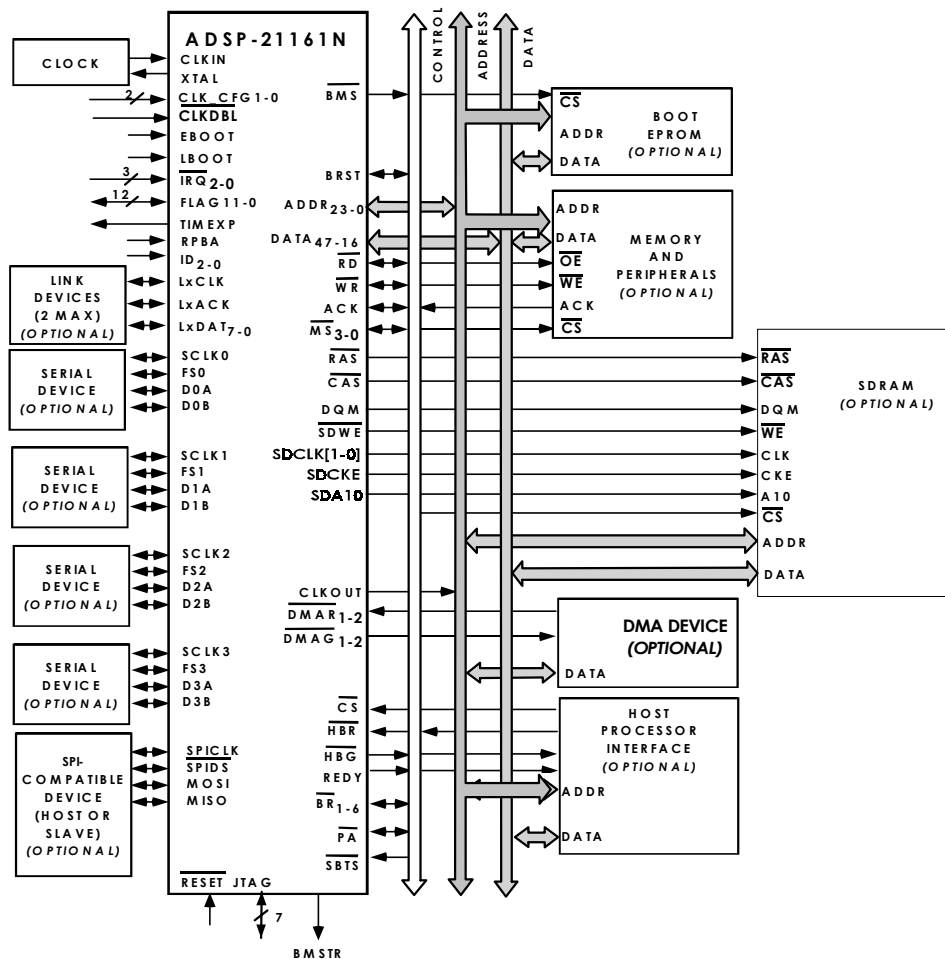
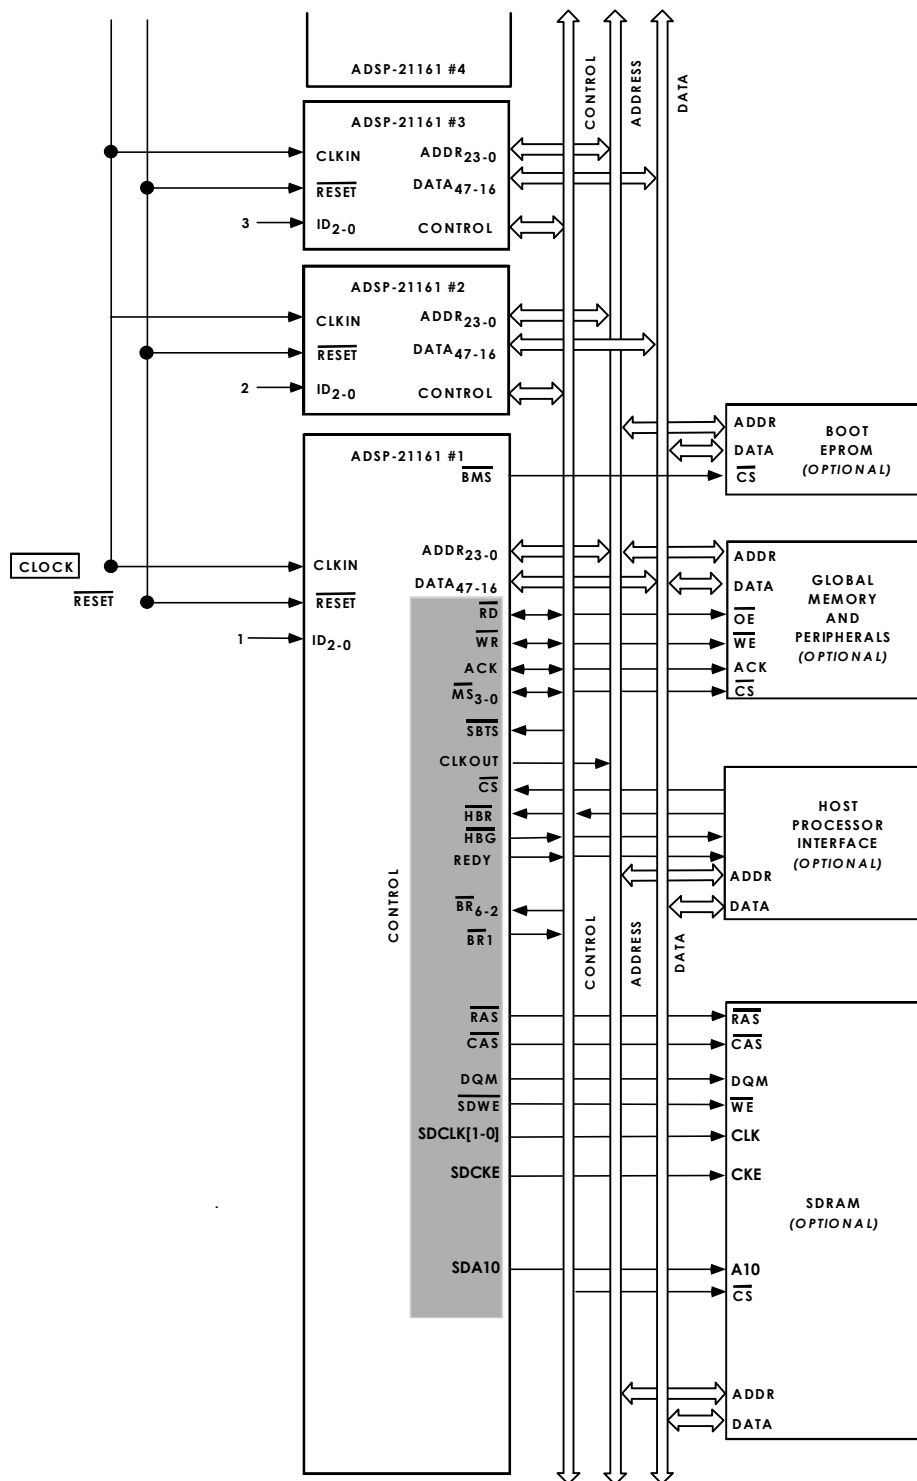

Figure 1. ADSP-21161N System
Figure 4. ADSP-21161N Shared Memory Multiprocessing System
Figure 1 shows a typical single-processor system. A multi-processing system appears in Figure 4 on page 8.
The ADSP-21161N features an enhanced Harvard architecture in which the data memory (DM) bus transfers data and the program memory (PM) bus transfers both instructions and data (see Figure 1 on page 4). With the ADSP-21161N's separate program and data memory buses and on-chip instruction cache, the processor can simultaneously fetch four operands (two over each data bus) and an instruction (from the cache), all in a single cycle.